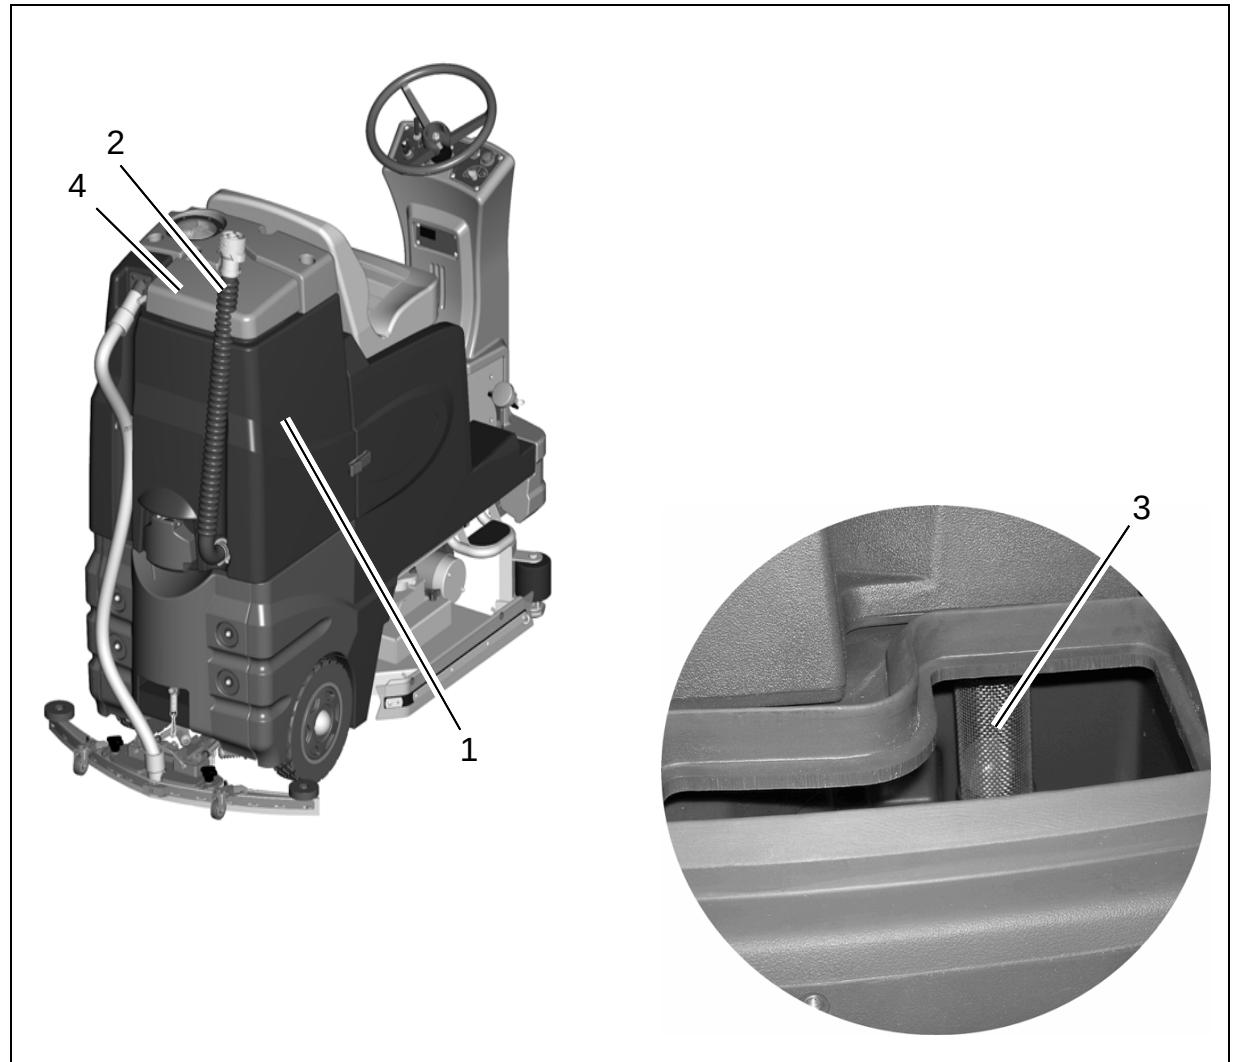

Fig.14
Clean recovery tank (Fig. 14/1) at daily intervals, as required or upon acoustic signal (increased vacuum motor speed).
4. Take drain hose (Fig. 14/2) from holder and empty recovery tank completely.
Clean recovery tank (Fig. 14/1) at daily intervals or as required.
2. Open tank lid (Fig. 14/4) of the recovery tank.
3. Take drain hose (Fig. 14/2) from holder and empty recovery tank completely.
Check suction filter (Fig. 14/3) at daily intervals and clean if required. The suction filter can be easily removed by pulling downward.